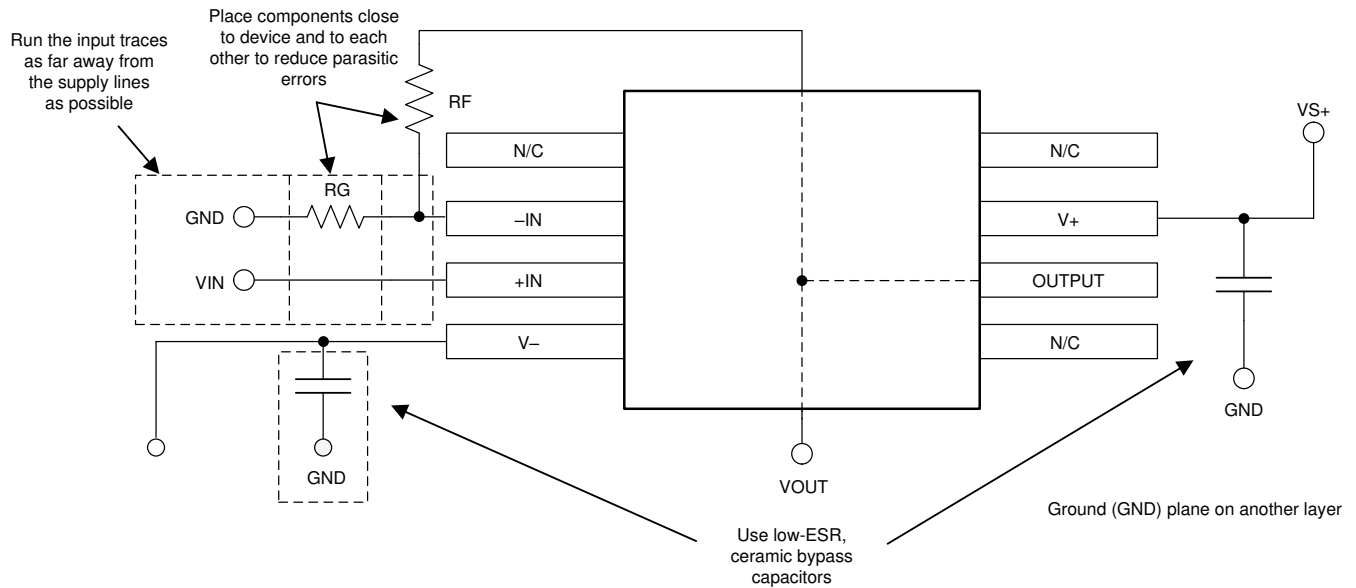

Figure 7-6. Operational Amplifier Board Layout for Noninverting Configuration
- Place the external components as close as possible to the device. As illustrated in Figure 7-6, keep RF and RG close to the inverting input to minimize parasitic capacitance.